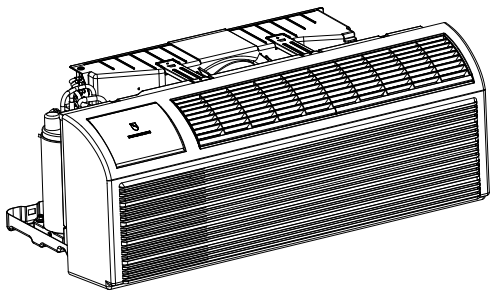

Fig. C.5.2.1—Shipping Tape Location
1. Carefully remove shipping tape from the front panel and vent door. See Fig. C.5.2.1